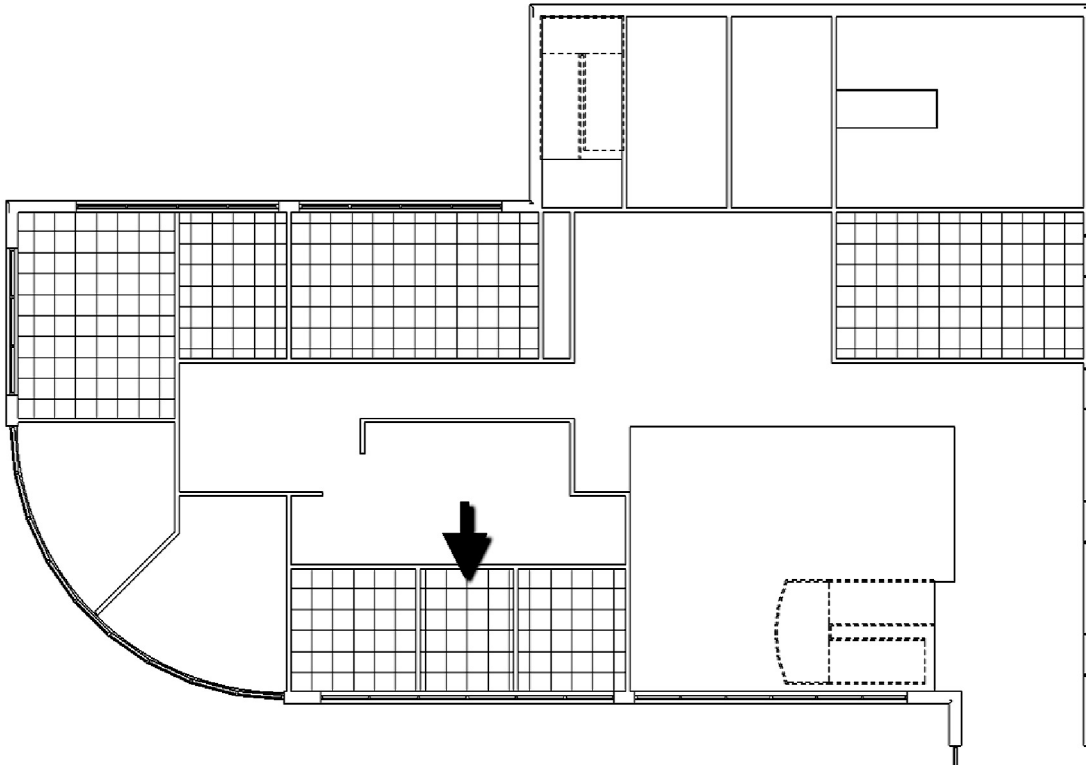

FIGURE 7-4.6: Level 1 Ceiling Plan view: 2'x2' suspended acoustical ceiling tile added to rooms.
9. Use the **Ceiling** tool to place 2'x 2' acoustic ceiling tile (ACT) at 8'-0" above finished floor (AFF) in the rooms shown (Figure 7-4.6).
When you place a ceiling grid, Revit centers the grid in the room. The general rule of thumb is you should try to avoid reducing the tile size by more than half of a tile. You can see in Figure 7-4.6 that the East and West sides are small slivers for the center office on the South exterior wall. You will adjust this next.
11. **Select** the ceiling grid identified in Figure 7-4.6. Only one line will be highlighted.